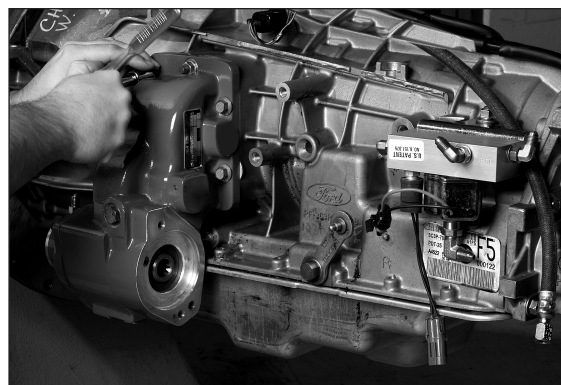

Figure 79
13. Finish fastening the PTO to the transmission using the remaining (4) flange head hex bolts.
14. Torque all 5 cap screws (**Fig. 79**) to 25 lb-ft [34 N-m] and torque the self-locking nut to 35-40 lb-ft [48-54 N-m].